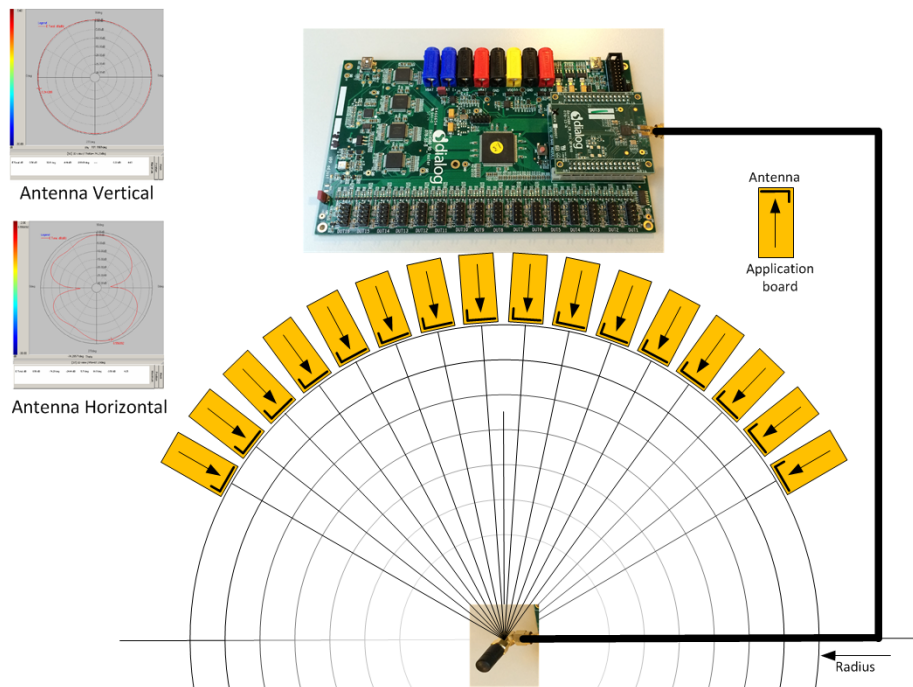

Figure 156: Possible Solution of Antenna on Cable and Fixed Radius of DUTs to Antenna
- A vertical GU antenna has different characteristics from a horizontal one, see Figure 156